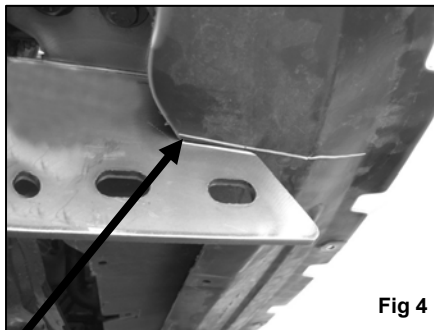

Fig 4
6. **NOTE:** To re-install the factory plastic shroud cutting is required. Insert factory plastic shroud from front of vehicle and slide it between Mounting Brackets and vehicle. Center plastic shroud and make sure the holes on the plastic shroud will line up with their original mounting holes on the vehicle after cutting, and then mark the cutting location (Figure 4).